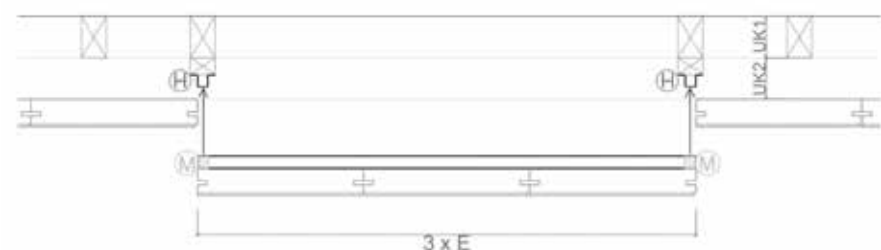

Fig. 2
■ If substructure is made of wood (sorting class S10 or C24 in accordance with ÖNORM DIN 4074-1:2004), two hat profiles „H” must be machined into the 2 UK level so that the inspection panel sits flush with the remaining acoustic elements (Fig. 2).